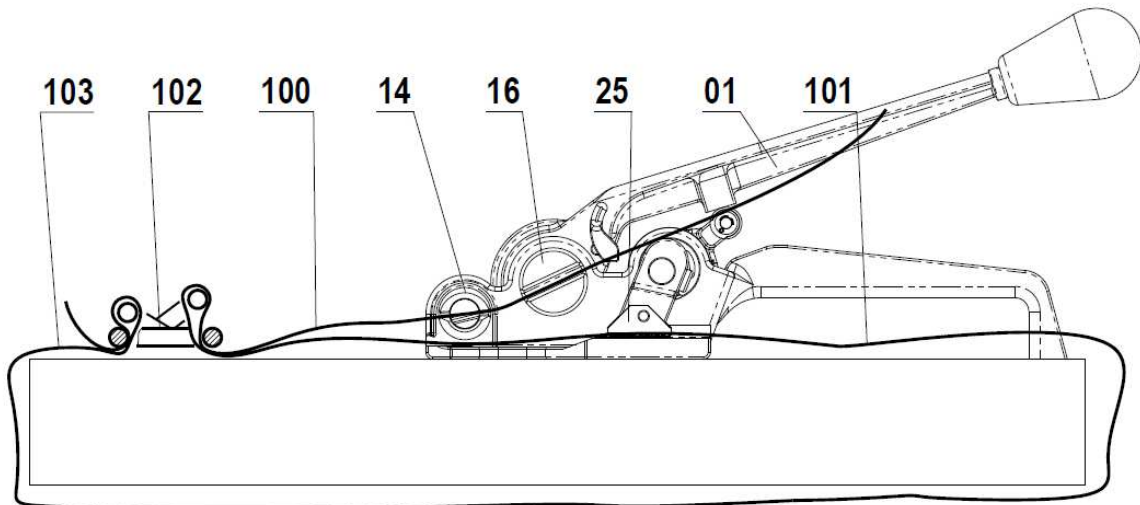

Fig. 3
2. Raise **Gripper Foot 25** by pressing down on **Tension Handle 01**. Load bottom strap **101** under **Cutter Housing 14**, under **Gripper Foot 25** and relies **Tension Handle 01**. Load upper strap **102** through **Cutter Housing 14**, through **Windlass 16** as shown on Fig. 3.